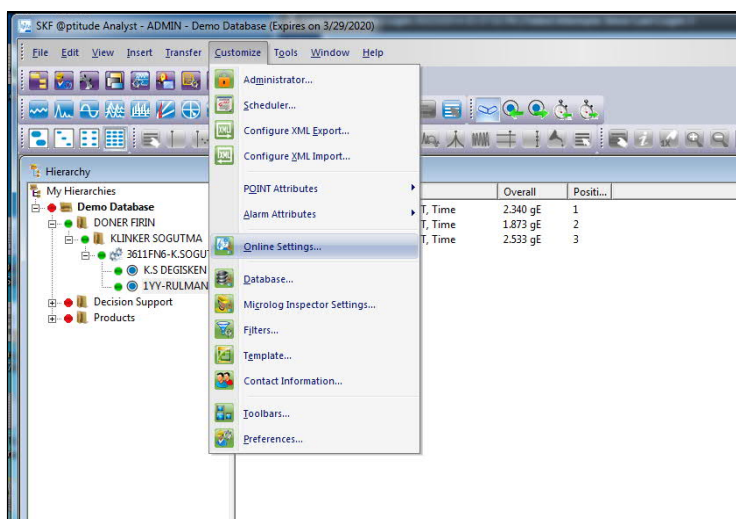

Figure 1. Customize > Online Settings
1. In SKF @ptitude Analyst, go to Customize > Online Settings. [Figure 1]